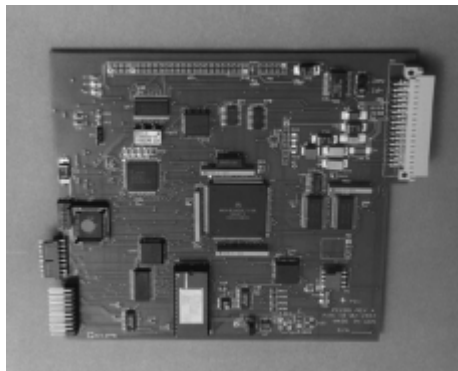
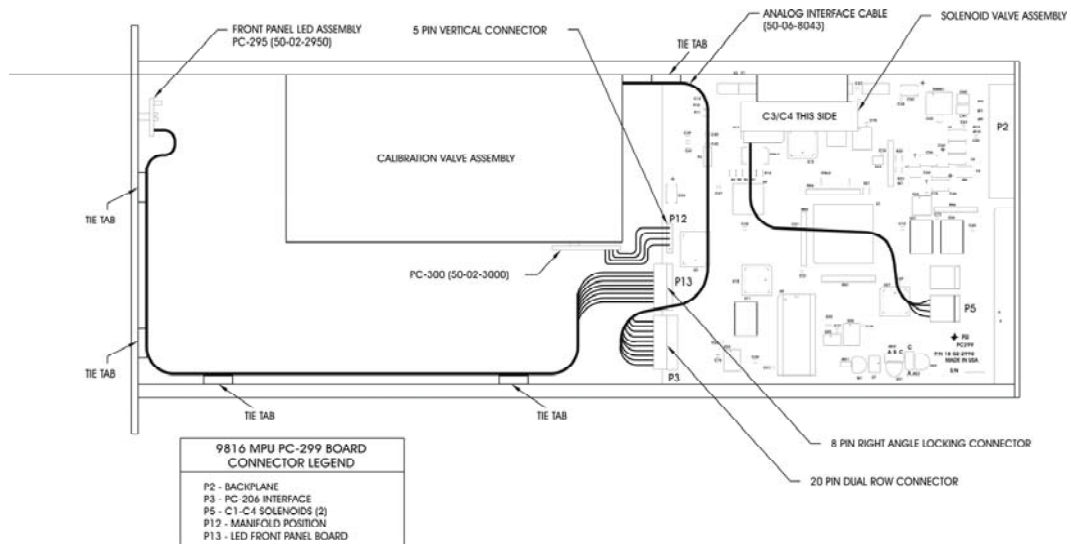

Figure 5.5
Figure 5.6
- (1) Disassemble the module as described in **Section 5.1.2.1** and **5.1.2.2**.
- (2) Carefully remove the four (4) attached wiring harnesses from connectors P3, P5, P12, and P13 on the PC-299 board.
- (3) Remove the four (4) Allen-head screws securing back panel to the **top and bottom** rails. Slide the PC-299 board to clear the rear panel P-2 cutout. Carefully lift the board out from the rails. See **Figure 5.5** and **Figure 5.6**.